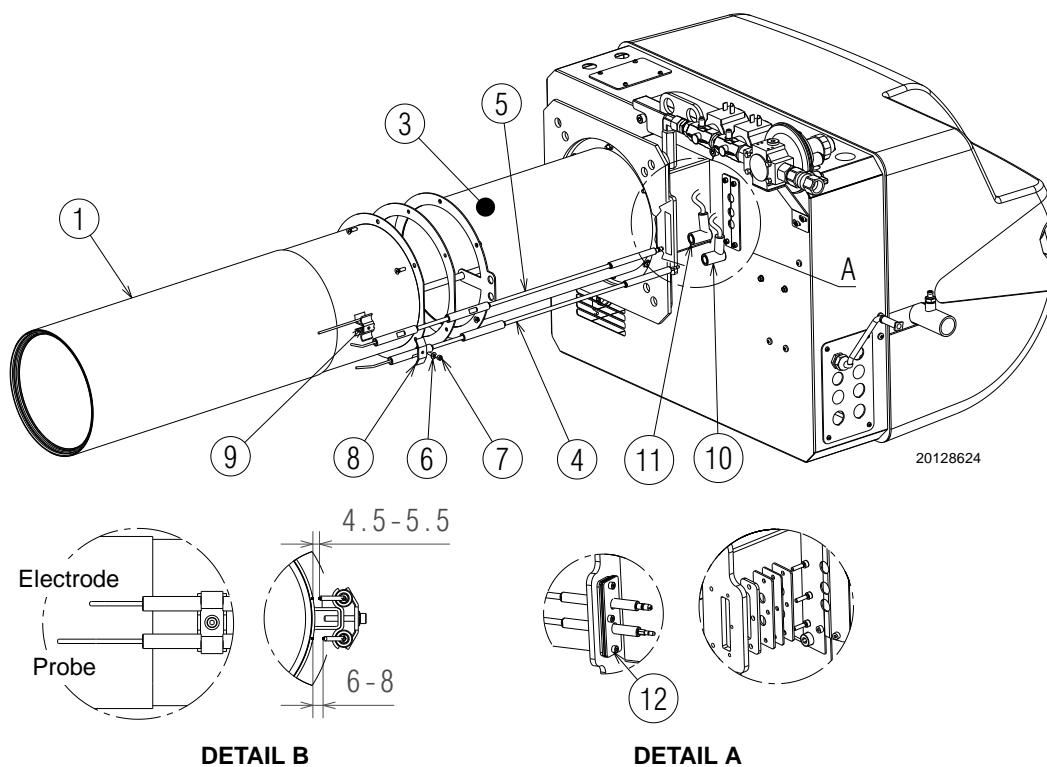

Fig. 21
- assemble combustion head 1)(Fig. 21) to burner 3) inserting seal 2) in-between;
Check that the probe and the electrode are correctly positioned as shown in detail B)(Fig. 21)